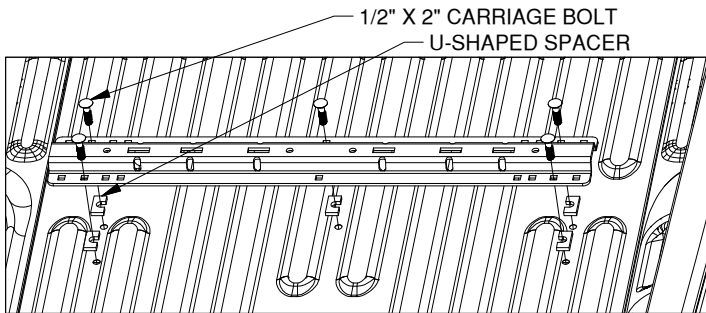

FIGURE B1: View looking into truck bed from rear of truck.
- 1. The forward mounting rail.** Re-position the forward mounting rail over the drilled 9/16" holes in the bed. Place a 1/2" X 2" carriage bolt through the mounting rail and into each of the 5 drilled locations. Place a U-shaped washer between the bed and the mounting rail at the five drilled positions, see figure B1.